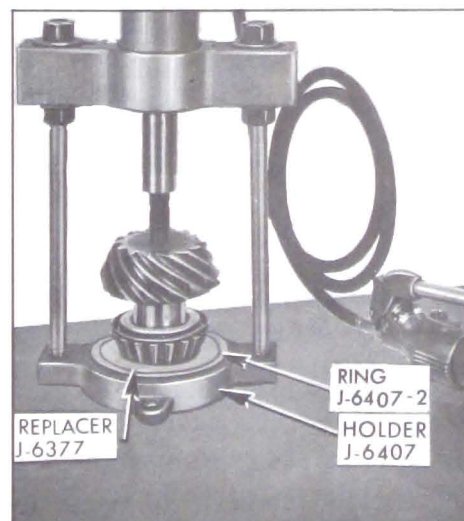

Fig. 6-70—Installing Rear Pinion Bearing
3. Plate correct shim (as determined in subpar. b) against head of pinion and install rear pinion bearing using Replacer J-6377 and Holder J-6407 with Ring J-6407-2 in a press or as shown in Figure 6-70.